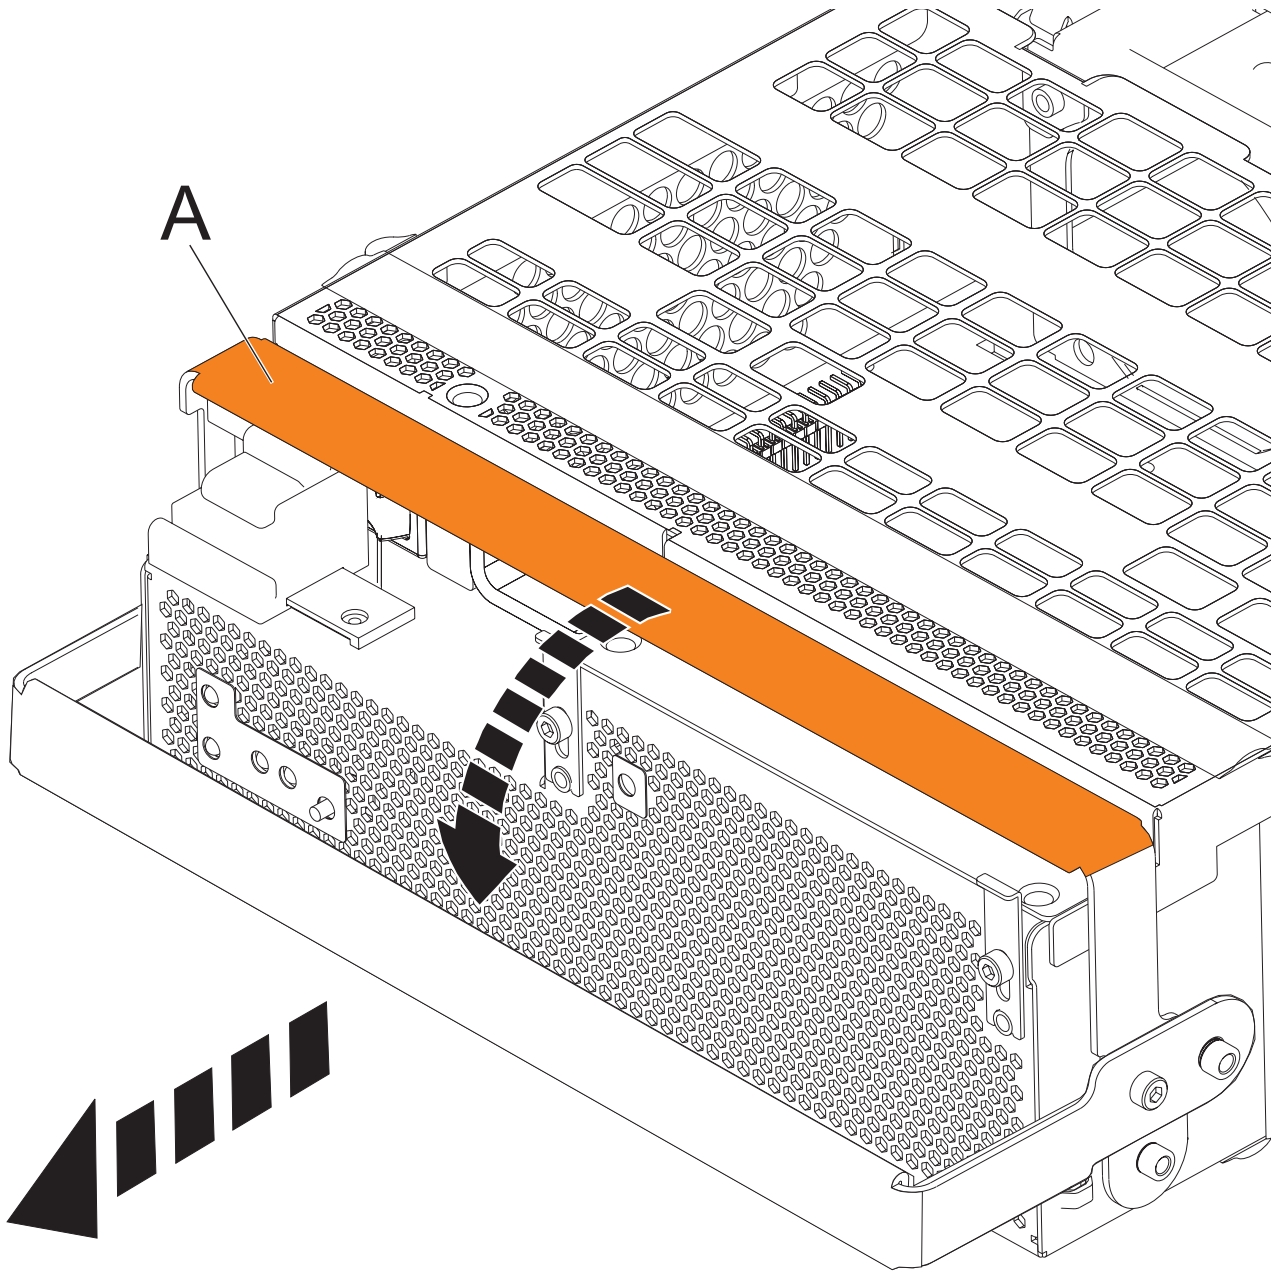

Figure 55. Remove the offline converter assemblies
- a. Pull the OCA handle (A) all the way down in the direction shown to unseat the OCA. See Figure 55 on page 72.